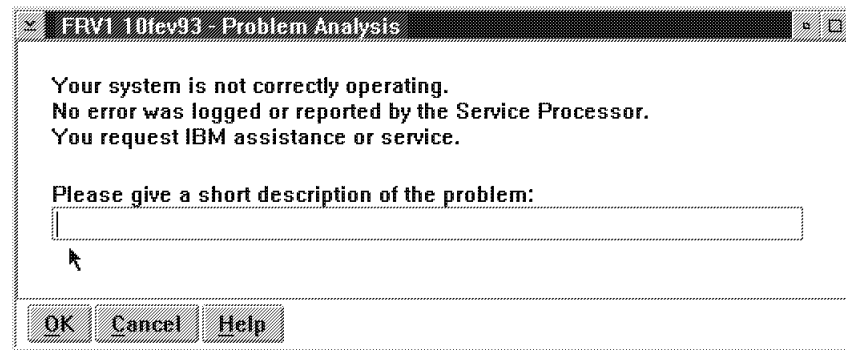

Figure 2-65. Link to RETAIN
4. ____ See Figure 2-65, enter a **short description** "Installing the 3746-950 and testing the RSF link", then click on **"OK"**.